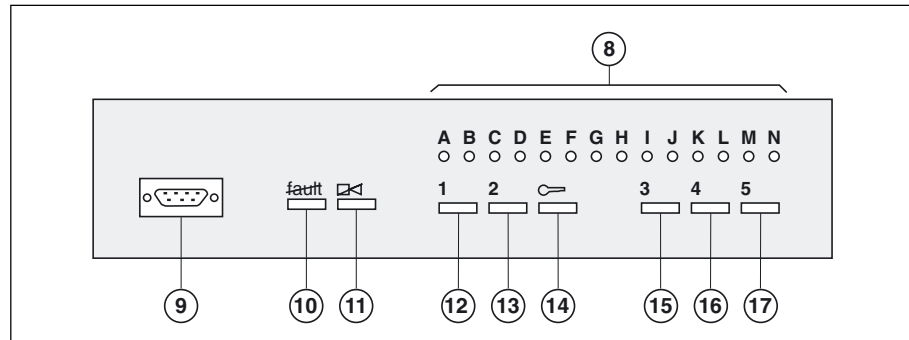

Fig. 28
- special control buttons (see figure 28).